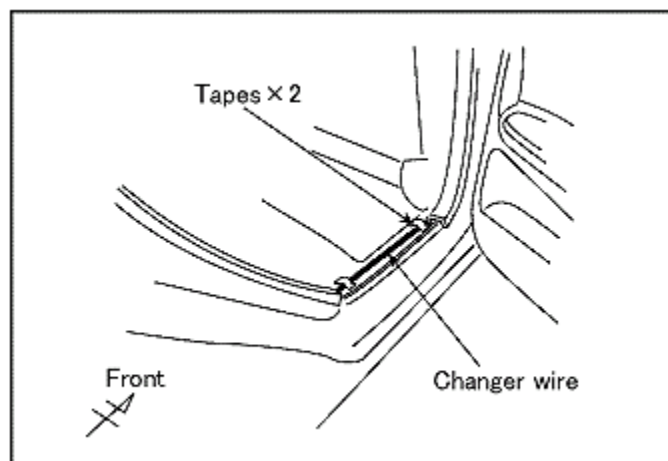

Figure N1
1. Route harness under rear seat to over right rear wheel. (Figure N1)
2. Take up slack and place tape on harness in positions shown. (Figure N1)